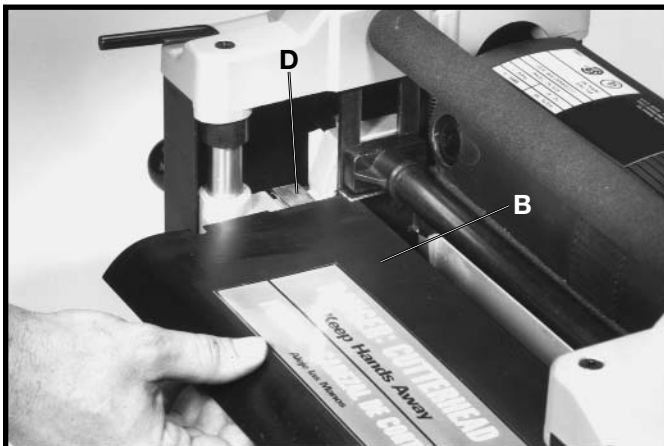

Fig. 34
12. Replace cutterhead guard (B) Fig. 34, making sure cutterhead lock (D) is depressed and underneath guard as shown. Slide guard in as far as possible and replace two screws, one of which is shown at (A) Fig. 35. These screws were removed in **STEP 3**.